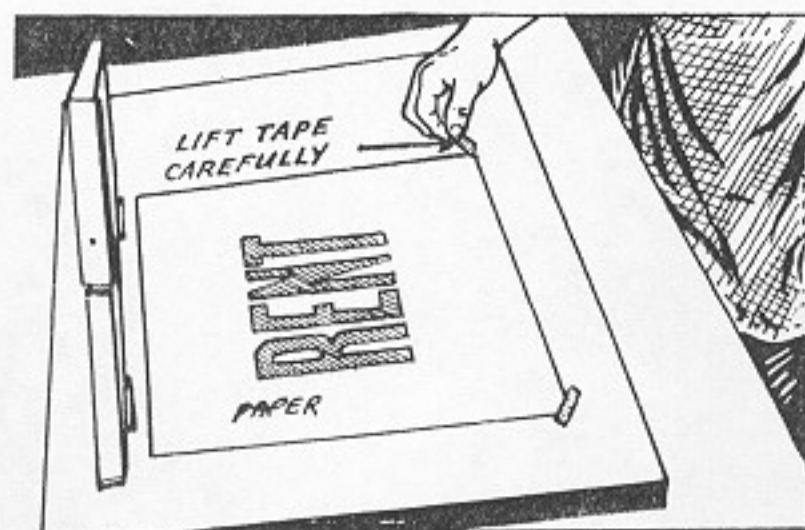

Fig. 76. Remove Tape, But Do Not Move the Paper
4. Lift the tape from the corners of the paper. Be sure that the paper does not move out of register with the original copy, Fig. 76.